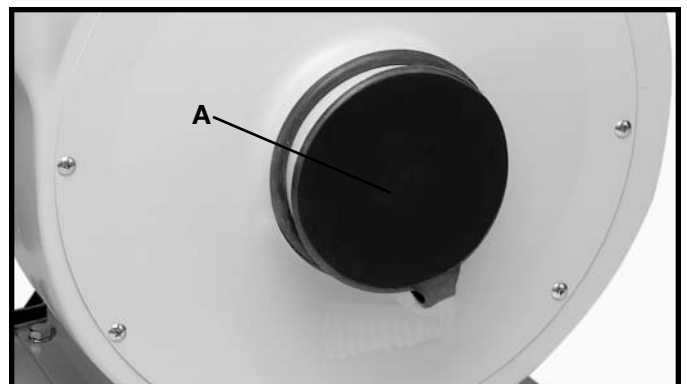

Fig. 31
4. **⚠️ WARNING:** Always make sure that the intake cap (A) Fig. 31, covers the intake port when the hose is not connected to the machine.